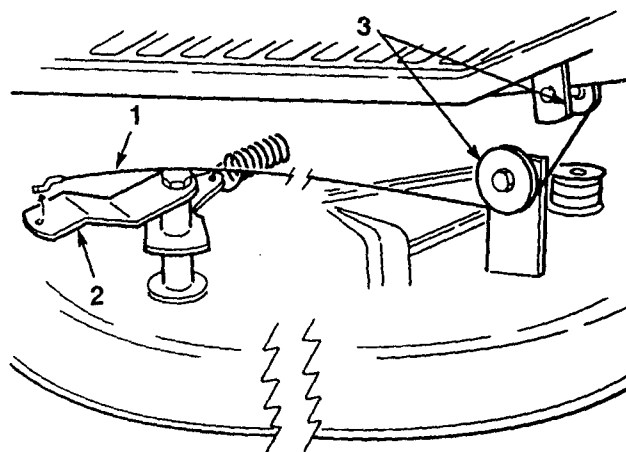

Figure 39
6. Unhook the blade control (PTO) cable from the roller guides and idler arm on the right side of the mower (Fig. 39). Move the cable out of the way so it cannot get caught on the mower.